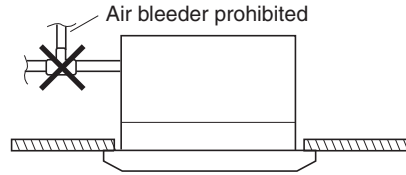

Fig. 3-7
- Do not install an air bleeder as this may cause water to spray from the drain pipe outlet. (Fig. 3-7)